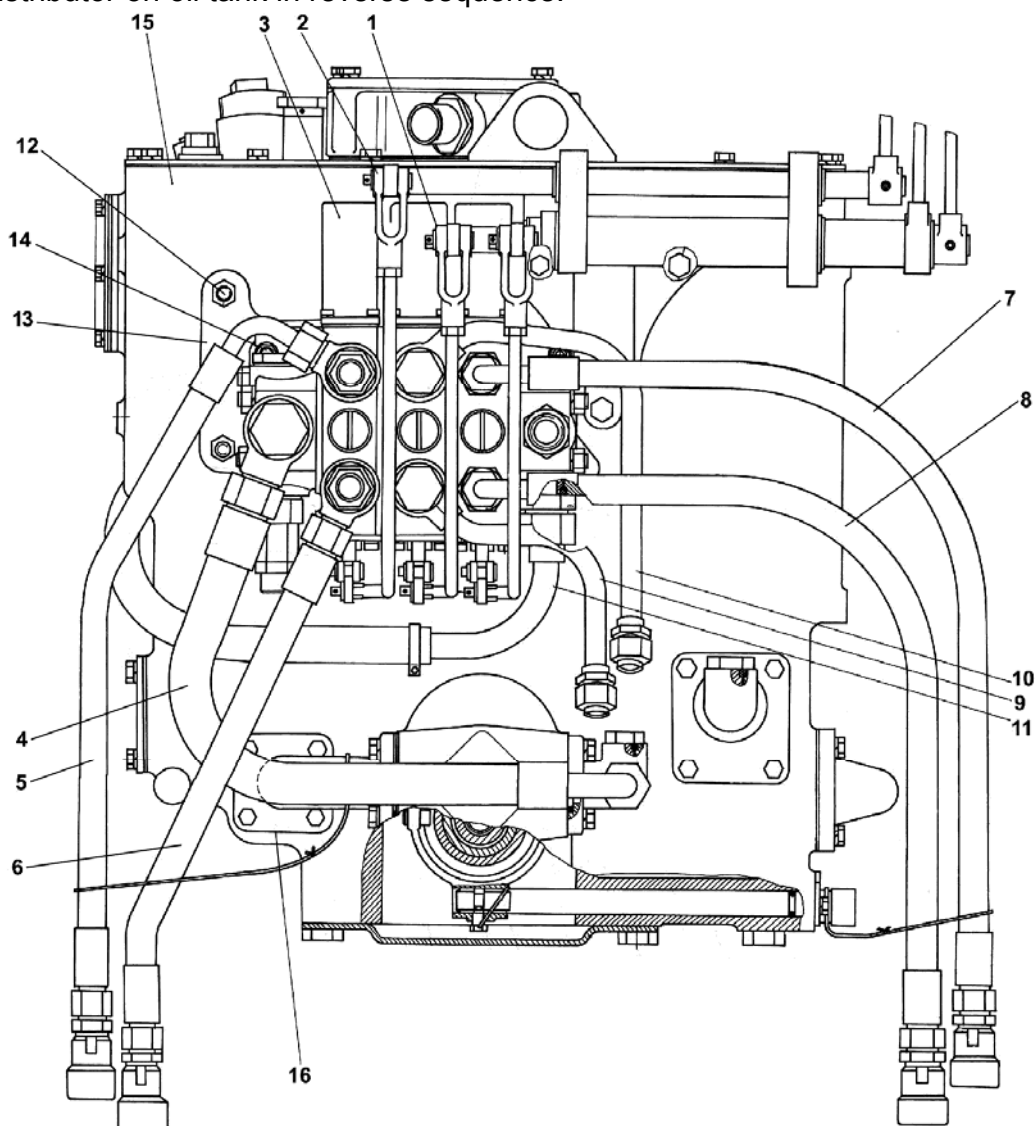

Figure 9.4
- a) disconnect control tie-rods 1 (Figure 9.4), 2 from distributor 3;
- b) disconnect from distributor (3) pressure oil line (4), oil lines of outlets 5, 6, 7, 8, 9, 10, drain oil line 11;
- d) unscrew three nuts (12) that fasten distributor arm (13) to oil tank (15) and dismount distributor (3) together with arm (13);
- e) unscrew four bolt (14) that fastens distributor (3) to arm (13).
- a) disconnect from pump suction branch pipe (16) and pressure conduit (4) (Figure 9.4);